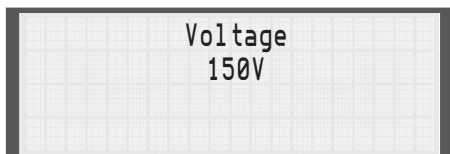

Fig. 5.27
6. Press the Power Limit key and use the Arrow keys to scroll to the desired power limit and then press Enter (**Fig. 5.27**).